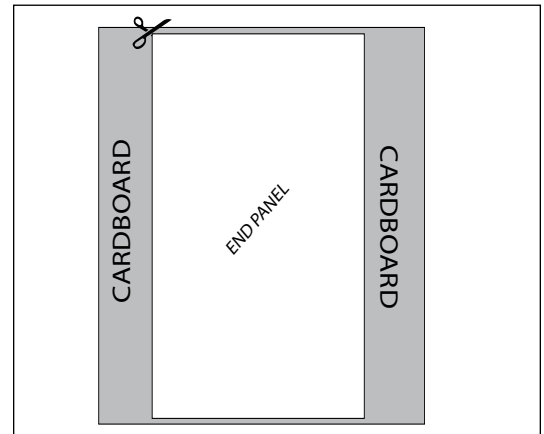

FIGURE 1. Cut out cardboard template.
- Lay an end panel on the packing carton and cut out a cardboard template the same size as the end wall. Mark one side of the template with a X and always place the X side toward the wall. (Fig. 1)